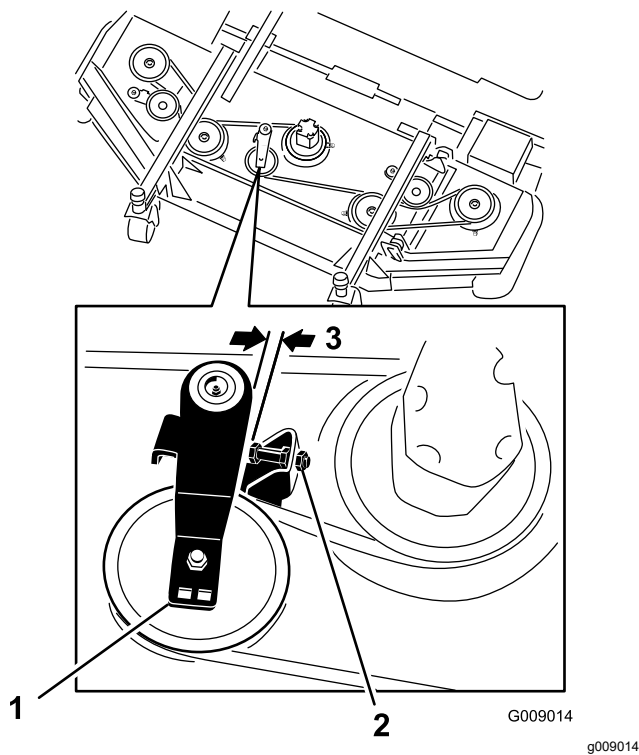

Figure 126
3. On the front deck, center position, loosen the jam nuts on the idler pulley stop screw and thread the stop screw into the bracket (Figure 126).
4. Using a ratchet wrench or similar tool, move each wing-deck idler pulley away from the drive belt to release the belt tension and allow the belt to slip off the wing-deck pulley (Figure 126).